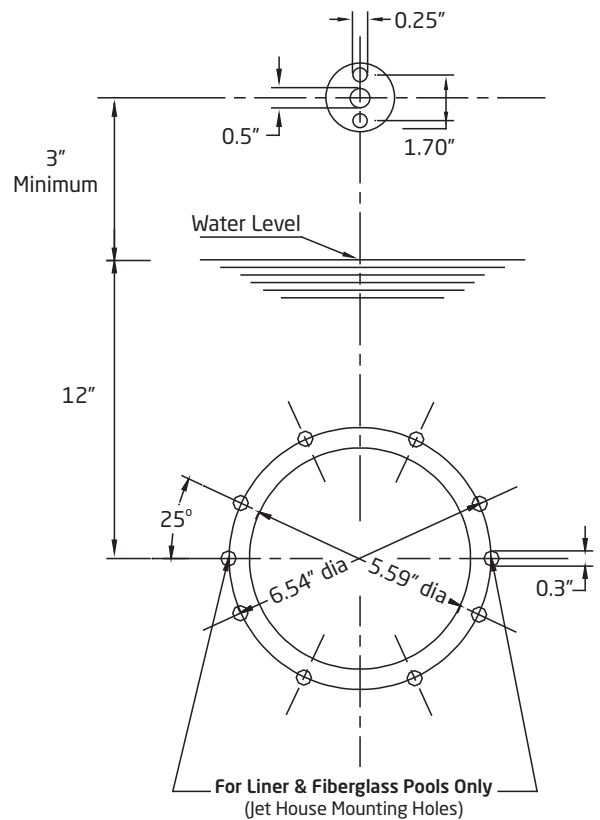

Figure 15
1. Using the clamping ring (*part #3*) as a template, drill holes in the pool wall for installation. The center line of the clamping ring should be 12" **BELOW** the water level (See *Figures 15 & 16*). Two additional holes will need to be drilled at the 3 and 9 o'clock positions for installation of the jet housing (*part #7*). The four brass inserts in the clamping ring should be at the 2, 4, 8 and 10 o'clock positions (See *Figure 15*).
2. Mount the housing (*part #7*) and one clamping ring gasket (*part #12*) on **BEHIND** the pool wall using two (2) #14 x 1" counter sunk screws (*part #27*). Install the screws from the inside of the pool wall through the holes drilled at 3 and 9 o'clock positions. (See *Figure 15*)
3. Install the clamping ring (*part #3*) and a second clamping ring gasket (*part #12*) in **FRONT** of the pool wall using eight (8) M6 screws (*part # 9/2, 9/3, or 9/4*). Screw lengths vary depending on the installation. *NOTE: A good RTV silicone may be used with the gasket when mounting the jet housing, but in most cases is not necessary. Installer should decided whether or not the silicone is necessary.*
4. For the air regulator assembly, one 1/2" hole must be provided, preferably along the vertical axis, approximately 3-4" **ABOVE** the water line. (See *Figures 15 & 16*). Using the 60 x 11 x 2mm air regulator gasket (*part #21*), mark and drill two 1/4" mounting holes (See *Figure 15*). Use the two (2) 1/4 - 20 air holder screws (*part #18*) and two 1/4-20 air holder nuts (*part #19*) to mount the air regulator holder.
For Steel Walled Pools: An optional butterfly gasket (*part #12.1*) maybe purchased to replace the two (2) clamping ring gaskets (*part #12*). Increase the jet housing hole in *Figure 15* from 5.59" to 5.75" for installation.